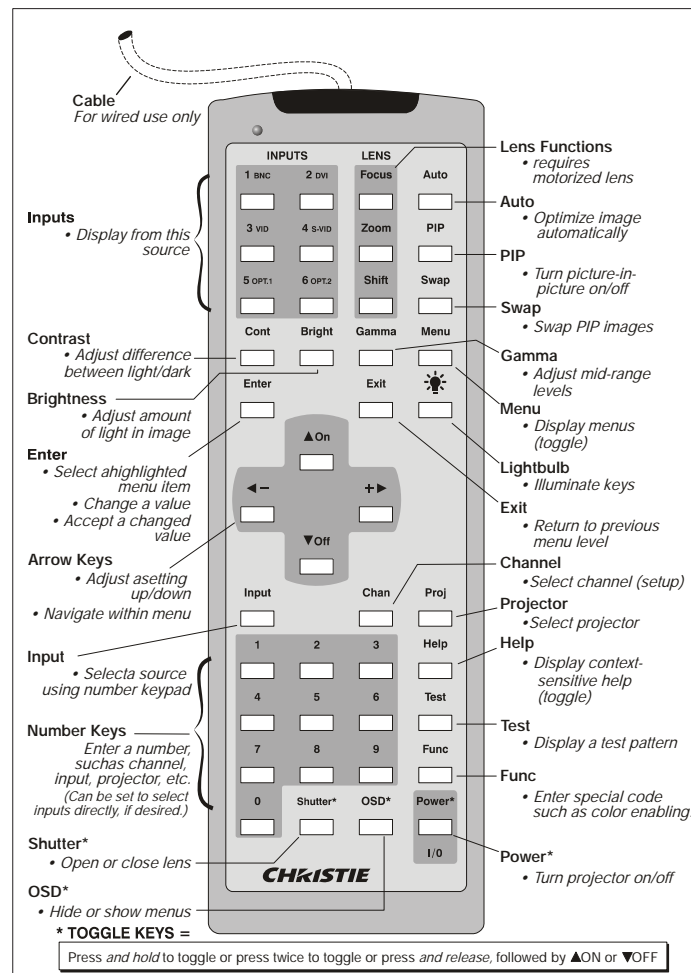

Figure 3-5 Standard IR Remote Keypad
- The standard IR remote (Figure 3-5) for wired (includes a 100 ft. cable) or wireless control up to 100 feet away
Refer to the key descriptions provided for the standard IR remote (Figure 3-5).